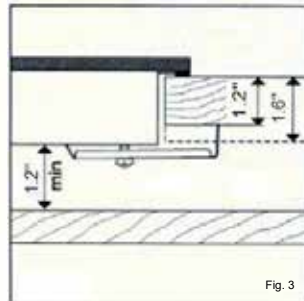

Fig. 3
- Position the cooktop in the recess and secure by means of the brackets as shown in Fig. 3(for 1.2" to 1.6" thick countertop).
- Take out the adopter pin & flip it, such that the spring faces outward(Figure 3).